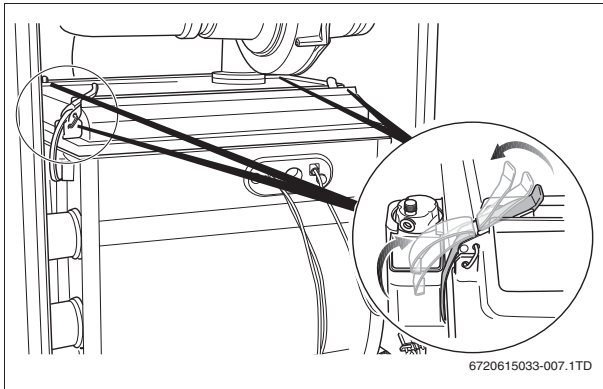

Fig. 6 Opening the retaining clips
- ▶ Loosen both retaining clips on the burner cover (→ fig. 6).